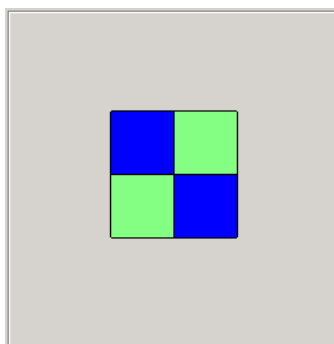

Fig. 3-134 Selection of Area to be Skipped
- (9) As shown in Fig. 3-134, you can specify an area to be skipped at image capture and check by clicking the relevant position. The specified position is discriminated by color.